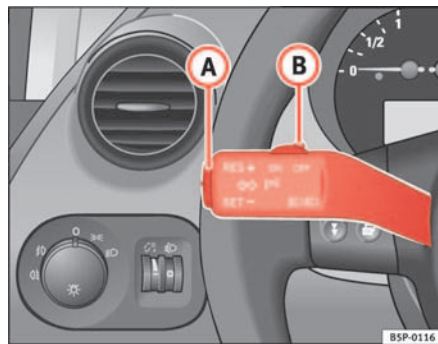

Fig. 140 Turn signal and main beam lever: Switch and rocker switch for CCS
- Push the switch ⇒ fig. 140 **B** to the left to the position **ON**.